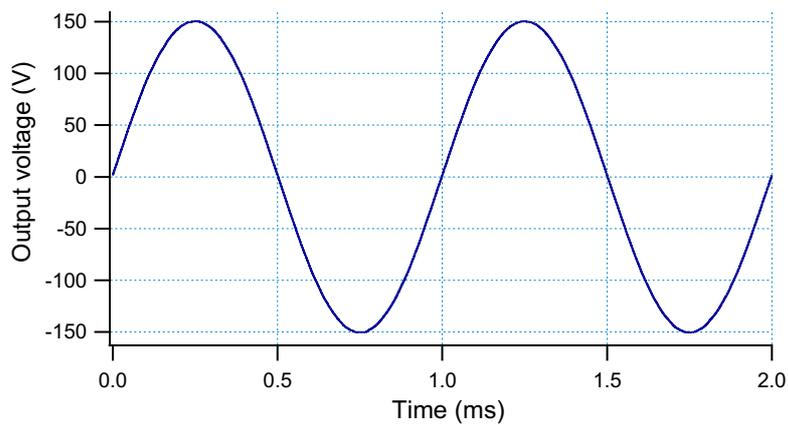

Figure 6. Sine wave 300V_{pp} 1kHz
- Sine and triangle wave responses (Fig. 6, 7)